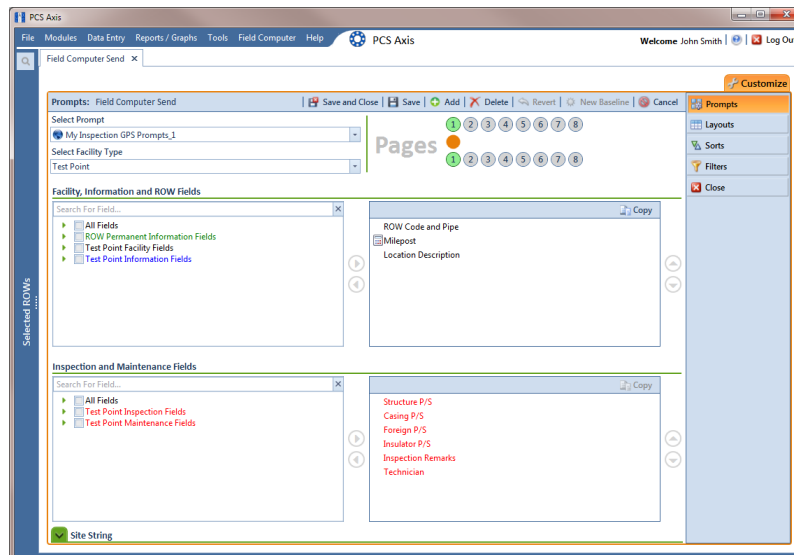

Figure 8-42. Prompts
- 10 Verify the name of the new theme displays in the **Select Prompt** field. If not, click the down arrow and select the theme in the selection list (Figure 8-42).
- 12 To add information prompts, follow these steps (Figure 8-42):
- a Click the  **Site String** and then double-click  **All Fields** in the left pane to view a list of fields available for selection (Figure 8-42, page 414).
- 15** If you want to add another page of prompts, click  **Copy** and then double-click one or more fields as needed in the left pane of **Inspection and Maintenance Fields**. Information fields in *Facility, Information, and ROW Fields* automatically copy to each page of prompts (Figure 8-42, page 414).